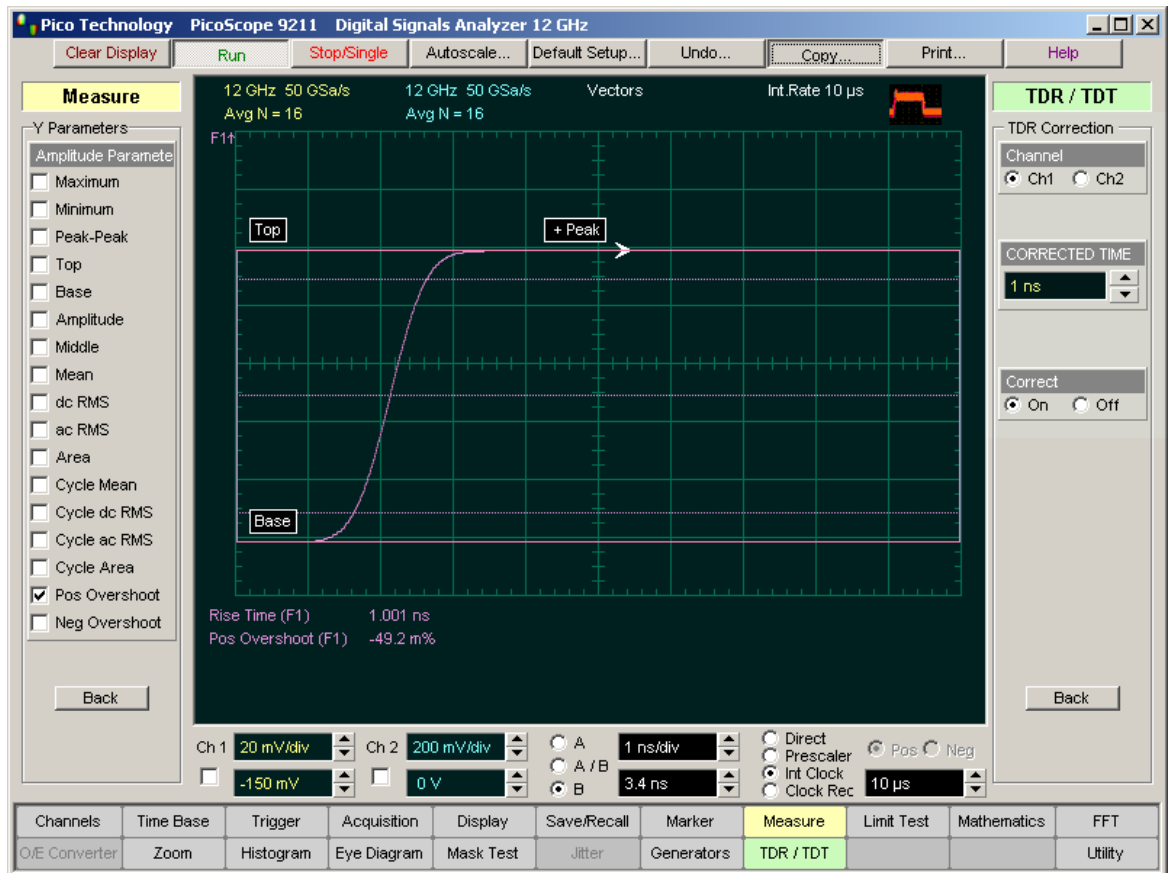

Figure 2
14. From the **X Parameters...** menu select **Rise Time**, and from the **Y Parameters...** menu select **Pos Overshoot**. See Figure 2.